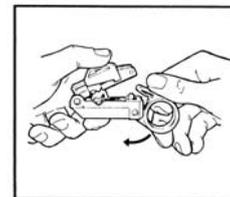

Figure 17
A. Open the tool by rotating locking latch downwards (Fig. 17).